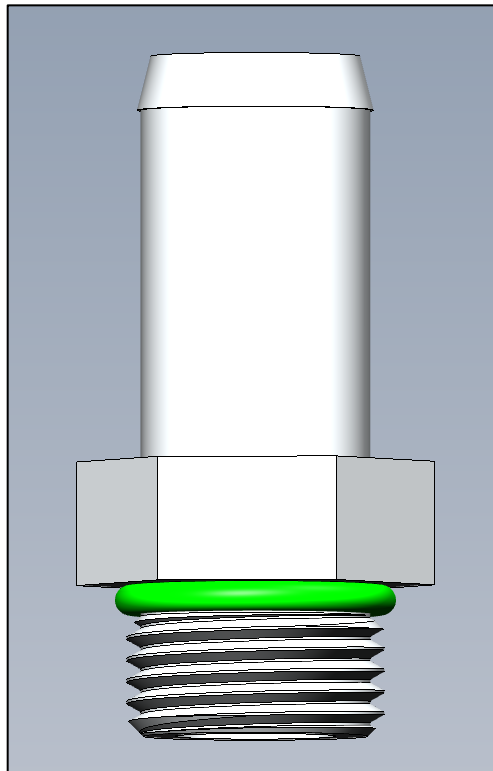

Figure 16
30. Locate the Coolant Port and O-Ring. Install the O-Ring onto the Coolant Port as shown. *Figure 16.*